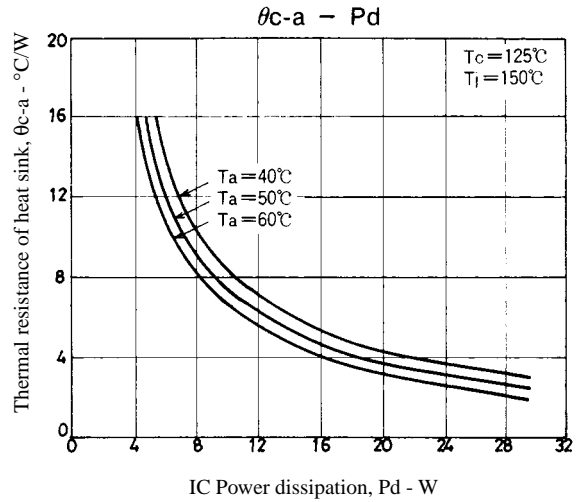

Figure 2. STK4412 $\theta_{c-a} - P_d$
Figure 2 shows the relation between P_d and θ_{c-a} given from (1) and (3) with T_a as a parameter.
The thermal resistance of a heat sink is obtained from Figure 2.